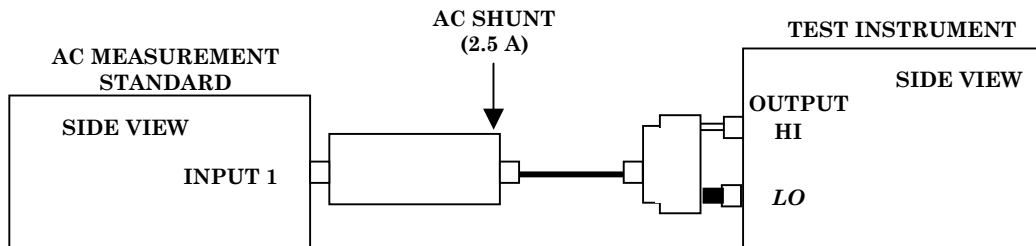

Figure 8. Ac current (10 mA to 2 A)
- (1) Connect equipment as shown in figure 8. Press **INPUT 1** pushbutton on ac measurement standard.